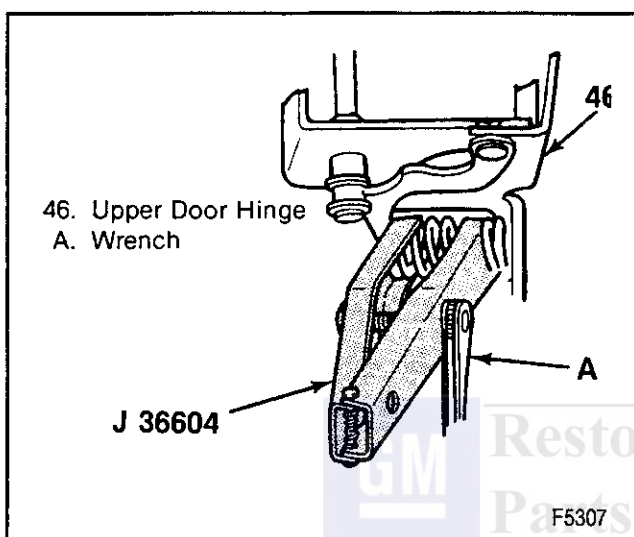

Figure 5—Hinge Spring Removal
4. Door hinge spring using J 36604 (figure 5).
7. Door hinge spring using J 36604 (figure 5).